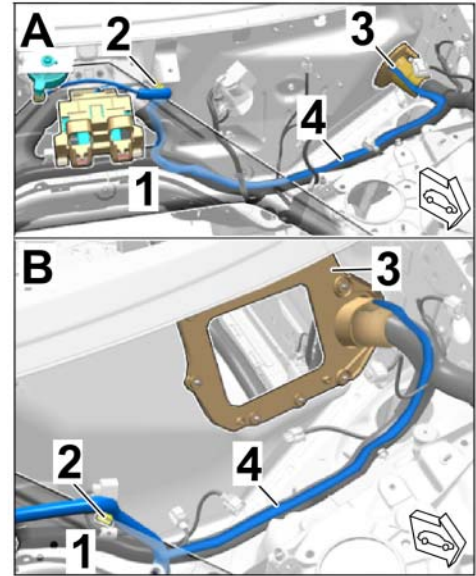

Figure 17
2.3.2 Lay the wire harness for the engine noise to the grommet on the bulkhead (in the A-pillar plenum panel area – left (⇒ *Figure 17*):